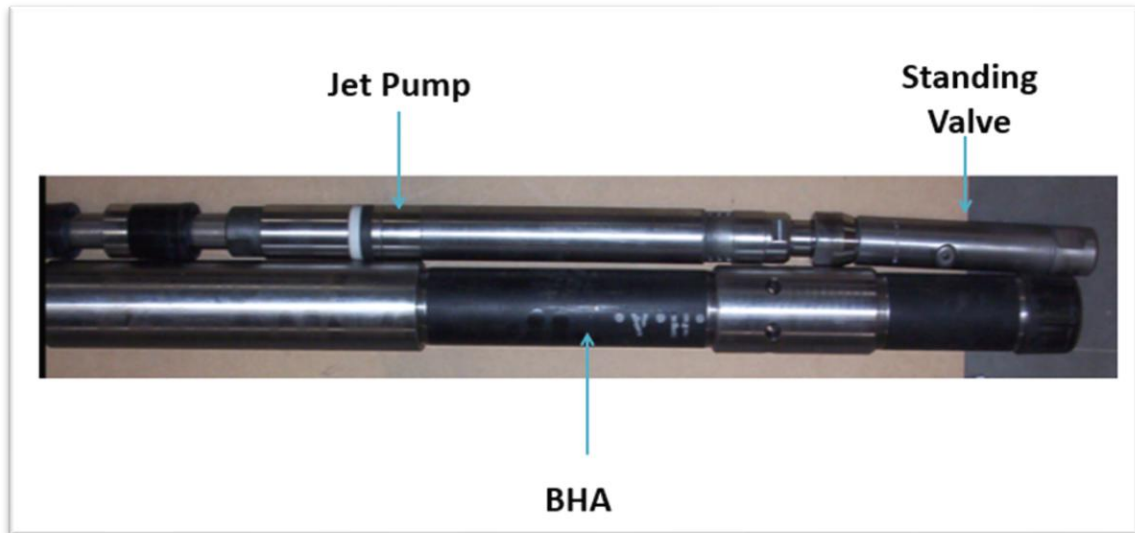

Figure 7: The Jet Pump Assembly (complete)
- The Jet Pump Assembly (complete): This is the sub-equipment for which this artificial lift system takes its name. It is installed at the bottom of the well, as close as possible from the perforations' top. The jet pump is a hydrodynamic device that uses the Venturi principle to draw fluids (liquid and gas) from a formation and pump them to the surface, where the produced hydrocarbons will be treated, stored, transported and then sold. The jet pump assembly is comprised of: A bottomhole assembly or BHA, a standing valve, and the jet pump. The BHA, sometime called the jet pump cavity, is part of the tubing string and is typically installed right above an annular packer. The BHA has along its inner cavity, several seal-bore surfaces for the jet pump to seal off, and one or more “no-go” internal diameters to hold and secure the standing valve, and sometimes, the jet pump as well, depending on the jet pump mechanical design. The standing valve is a non-return valve that is located at the bottom no-go internal diameter of the BHA. The standing valve has two functions: Hold the fluids up during a system shut down and allows the hydraulic reversal of the jet pump to the surface. The jet pump itself is freely located inside the BHA and on top of the standing valve. The jet pump most important parts are the nozzle, throat, diffuser and flow crossover. Please see figure 7.